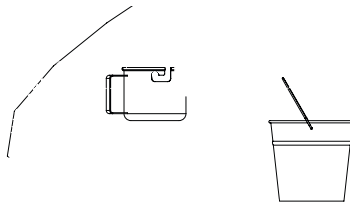

FIG. 7
1. Hang grease bucket from tube as shown in Fig 7.
1. Install Ash Cup as shown in Fig 7. Never use grill without Ash Cup in place.